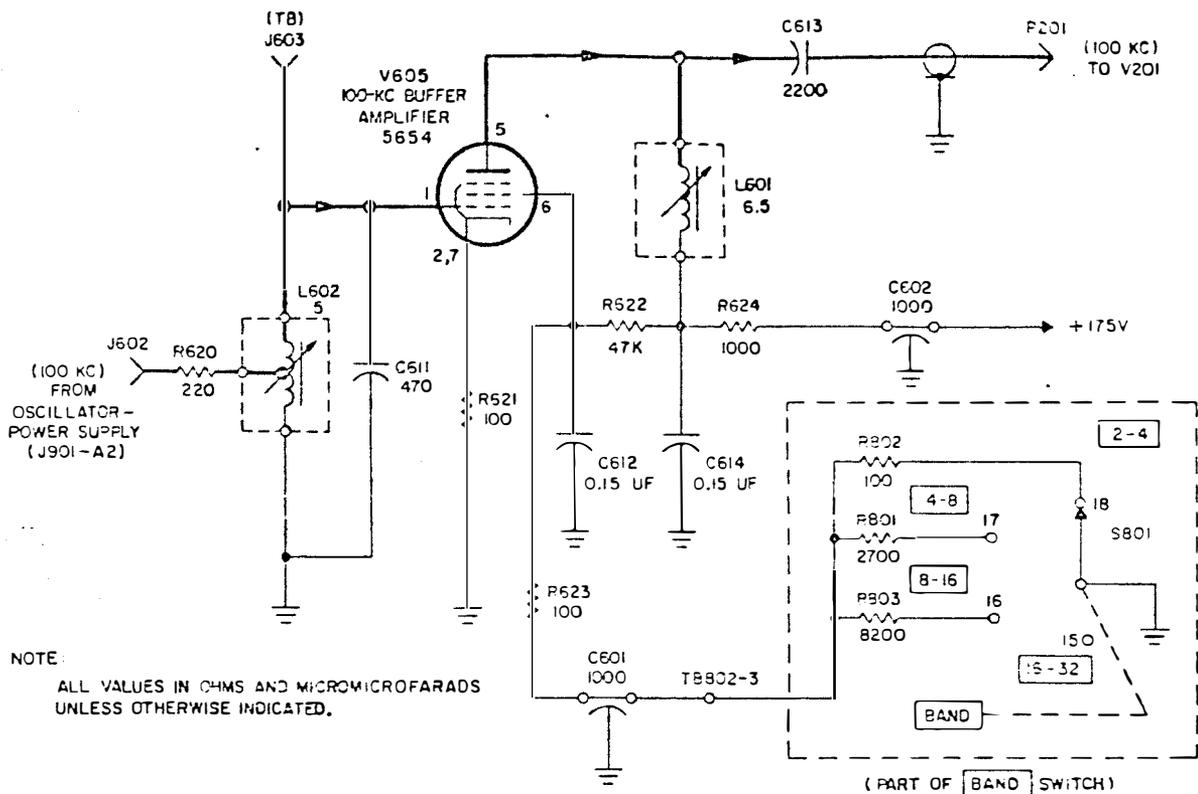

Figure 4-22. 100-Kc Buffer Amplifier, Simplified Schematic Diagram
(14) 100-KC BUFFER AMPLIFIER. (See figure 4-22.) - The 100-kc buffer amplifier consists of V605 and i-f coils L602 and L601. The buffer amplifier is used to increase the level of the 100-kc reference signal from Oscillator-Power Supply O-928/FLR. In addition, the buffer provides circuit isolation to prevent interaction between receivers when more than one receiver is operated from a common oscillator-power supply. The 100-kc reference signal is applied to the tap connection of coil L602 through J602. Coil L602 is a resonant circuit tuned by capacitor C611. The tap permits an impedance match to the relatively low impedance of the 100-kc reference source in the oscillator-power supply. The signal is applied to the control grid of V605, and appears across the output circuit consisting of i-f coil L601. This coil is a resonant circuit tuned by capacitor C223 in the harmonic amplifier (see figure 4-20) in series with coupling capacitor C613. The amplified 100-kc reference signal is applied to the harmonic amplifier input via connector P201. Test jack (TP)J603 permits signal tests to be made at the grid of V605.